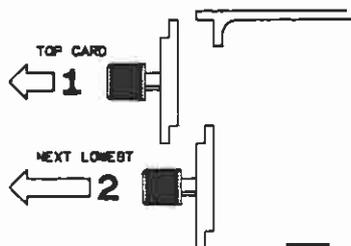

Figure A-7. Endplate Overhang
- c. Starting from the top, begin pulling all cards out half way. See figure A-7.